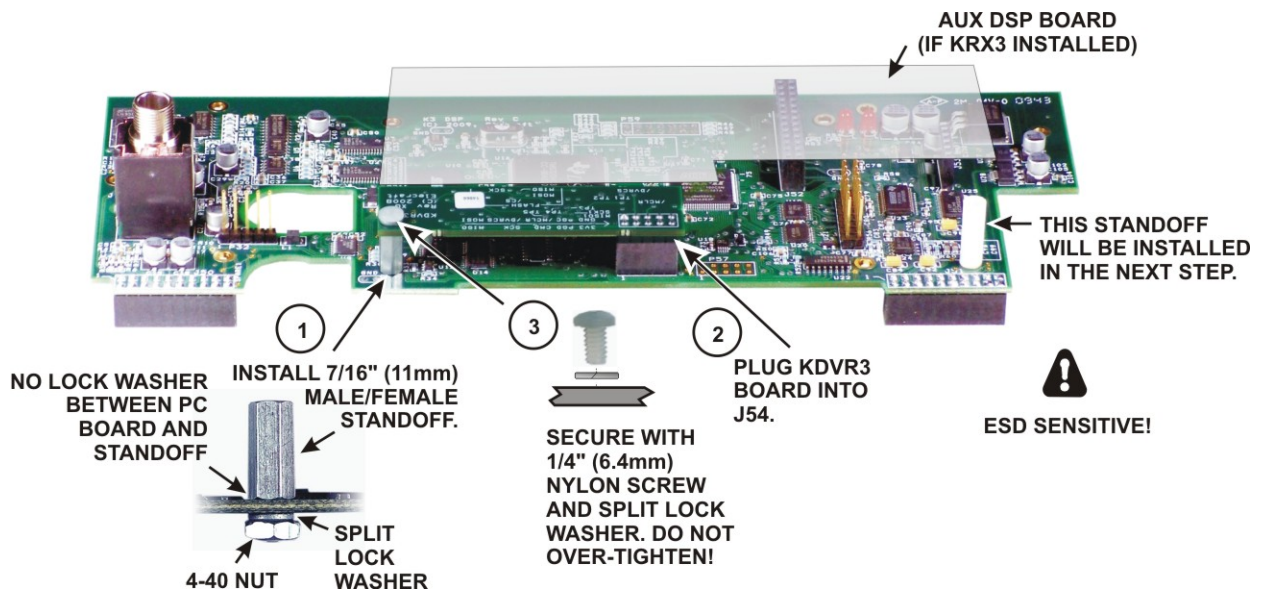

Figure 55. Installing the KDVR3 Board.
□ If you have the KDVR3, install it on the main DSP board as shown in Figure 55. The required hardware is included in your KDVR3 kit. If you did not purchase the KDVR3, skip this step and continue with *Mounting the DSP Board Assembly on the Front Panel* on 39.
Locate the main DSP board and install the nylon standoff near J51 as shown below. Be sure you place it in the correct hole near the edge of the board. The standoff is also shown in Figure 55.